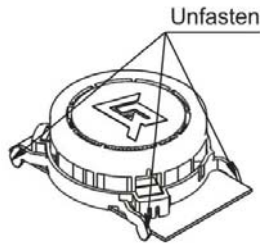

Figure 5
- b) unfasten the locks on the smoke chamber (see Figure 5) and take it off together with wire mesh being cautious in order not to damage the screen straight arch;